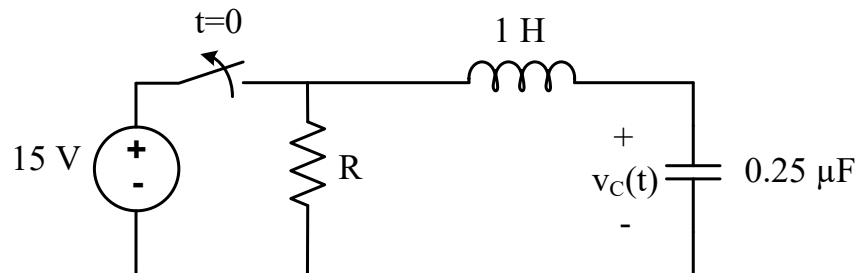

Figure 5: RLC Circuit
2. Follow similar steps from part 1 from #1 - #15 to build the RLC circuit described in Figure 5. An additional library called “special” will be needed to add “PARAMS”.